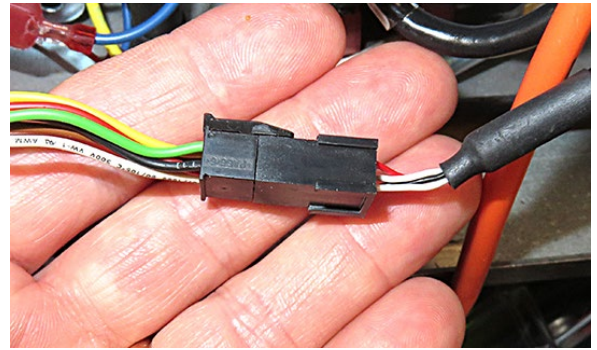

Figure 18
22. Connect the male end of the OQS harness to the adaptor in step 19 (see Figure 18).
26. **Follow the directions included to update the software using the supplied USB drive. There are three (3) steps that MUST be completed to update the software (see instructions included with USB). Failure to follow all three (3) steps may render the fryer inoperable. When software and menu update are complete return to step 27 below.**